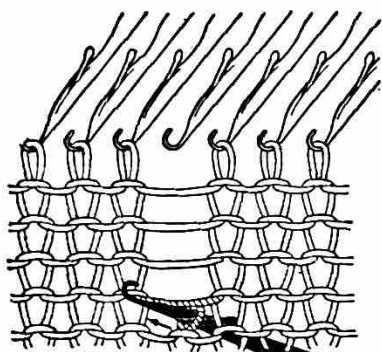

Fig. 33
2. Push the latch hook towards you so that the loop of the stitch falls behind the open latch and the hook of the latch grasps the horizontal thread in the row above (Fig. 33).